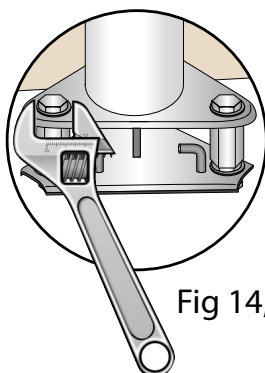

Fig 14,
14. Raise the flagstaff, insert and tighten the set screws and anti-vibration washers. (See Fig 14)